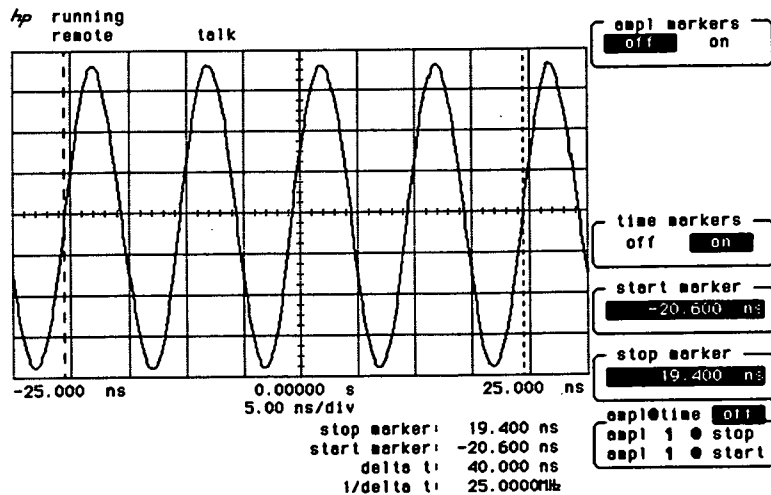

Figure 1-11. Mid-Screen Crossover
4. Set the start marker (large dashed vertical line) to the mid-screen crossover point on the left side of the displayed signal as shown in Figure 1-11. The knob changes the position of the marker.
6. Set the stop marker (small dashed vertical line) to the mid-screen crossover point on the right side of the displayed signal as shown in Figure 1-11.